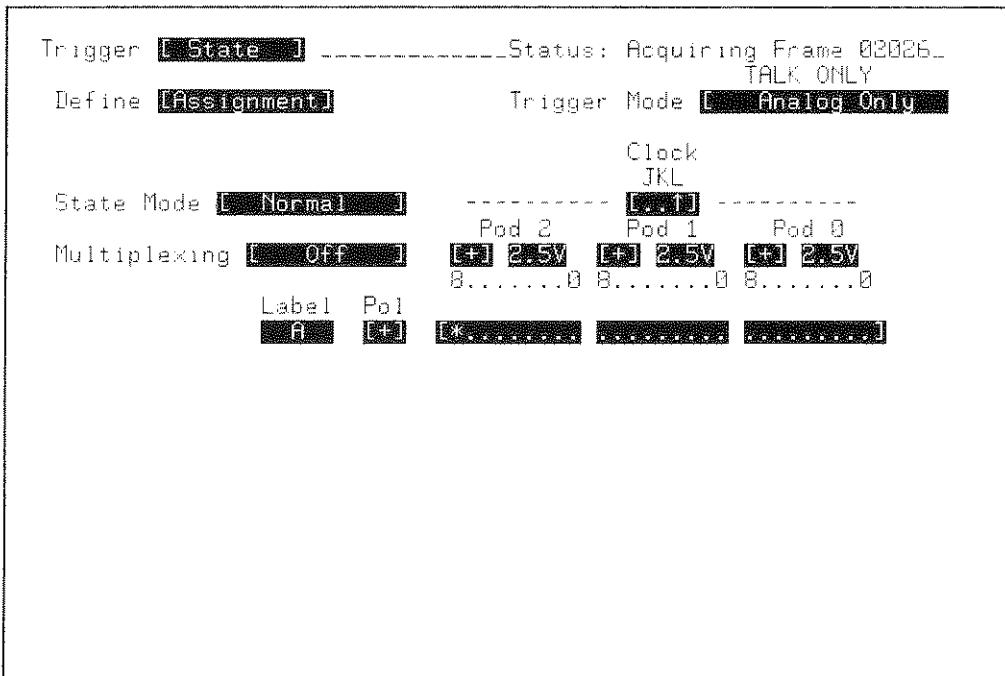

Figure 10-12. 54200D State Trigger Assignment Configuration
2. Configure the TRIG State Assignment menu as shown in figure 10-12.